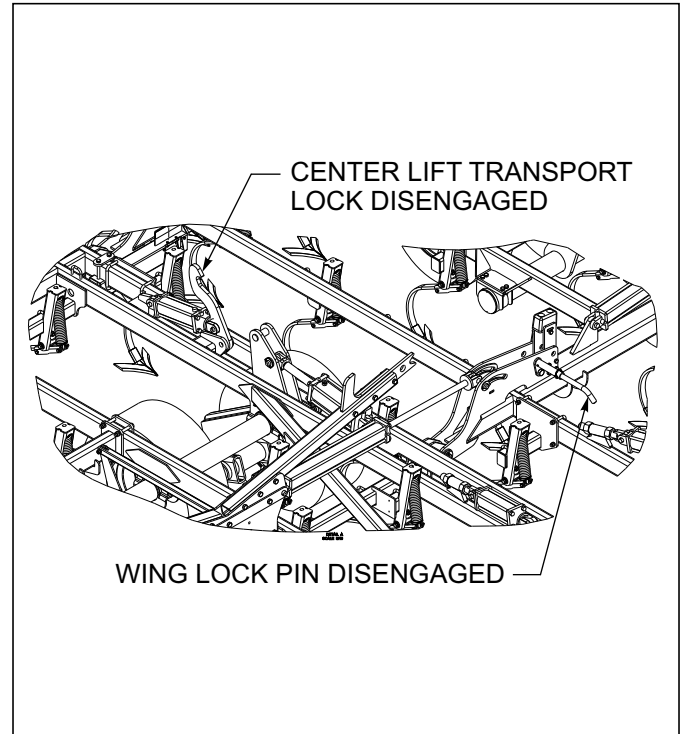

Figure 4-2: Stored Transport Lock Locations
4. With all cylinders fully extended, remove the transport locks (See Figure 4-2.) Lower and raise the unit to verify that all cylinders are working simultaneously throughout the stroke.